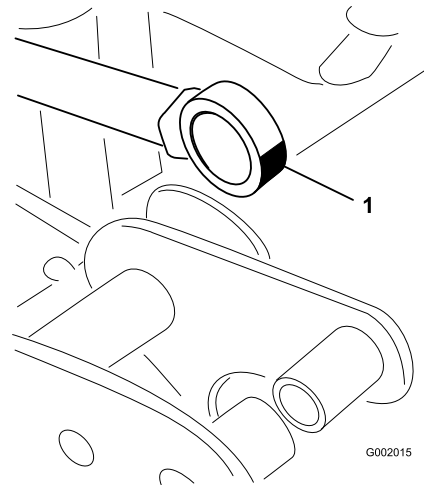

Figure 37
5. Manipulate the actuator rod bearing end and apply grease into the bearing (Figure 37). Wipe off excess grease.